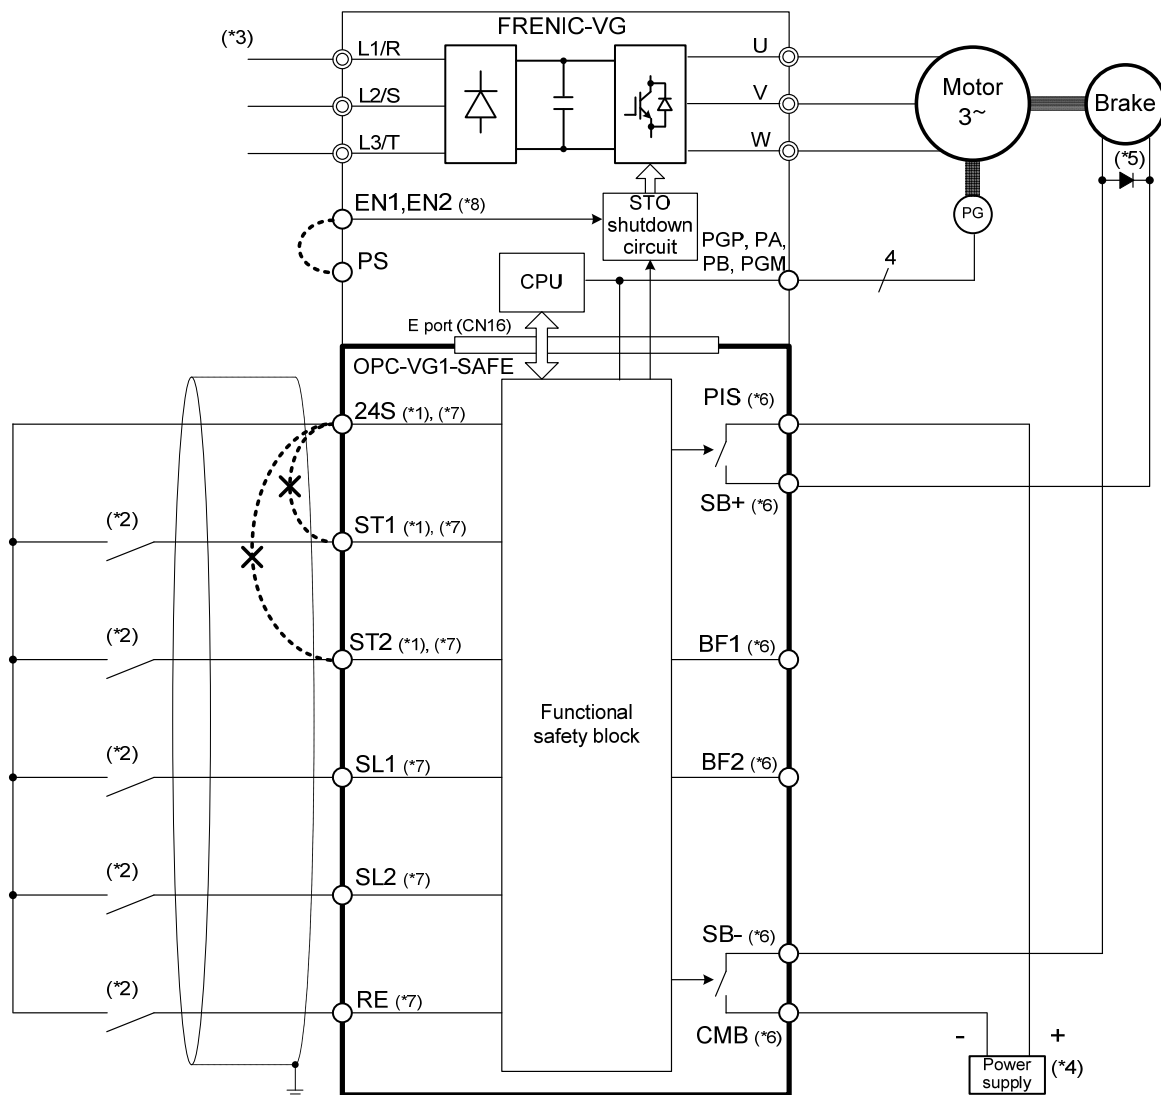

Figure 2.2 Wiring Diagram (when SF24 = 2)
- (*6) When SF24 = 2, make wiring as shown in Figure 2.2.